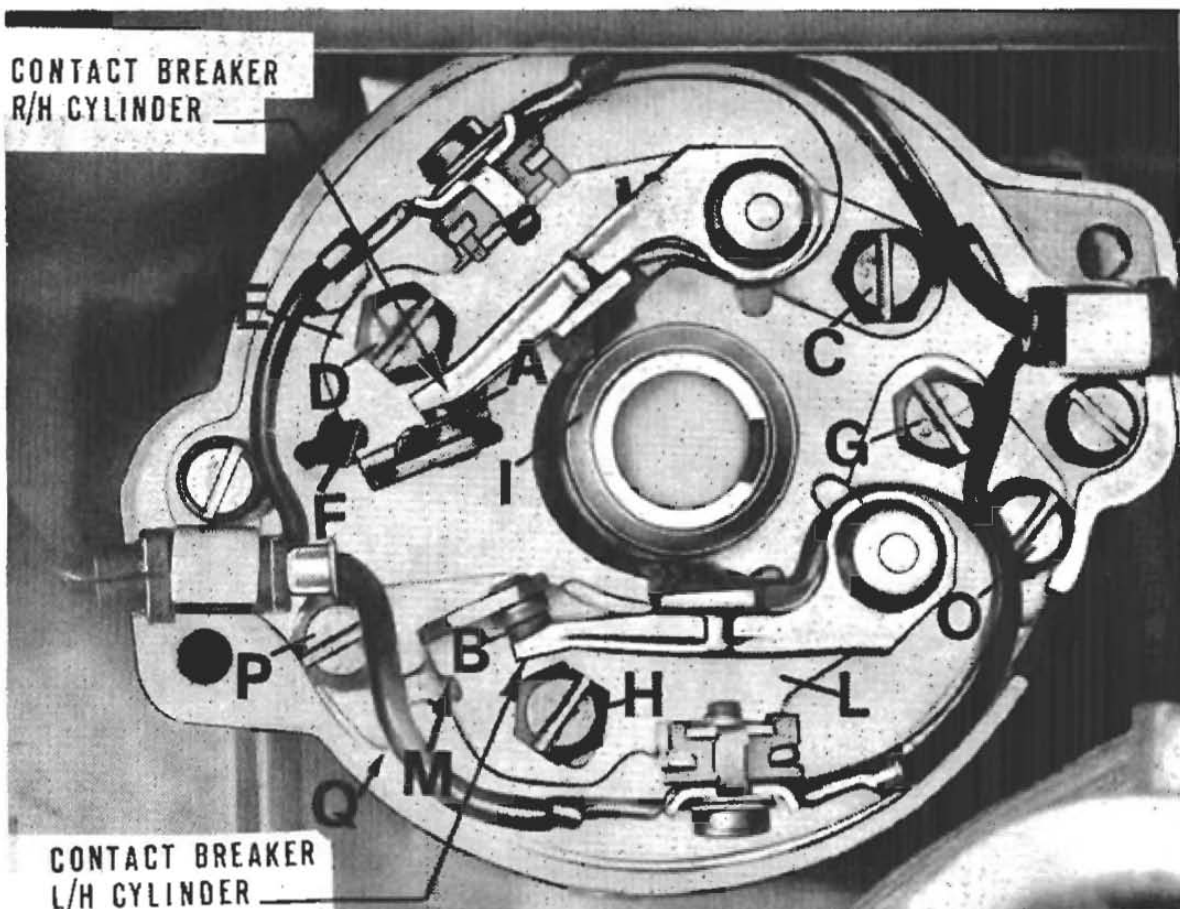
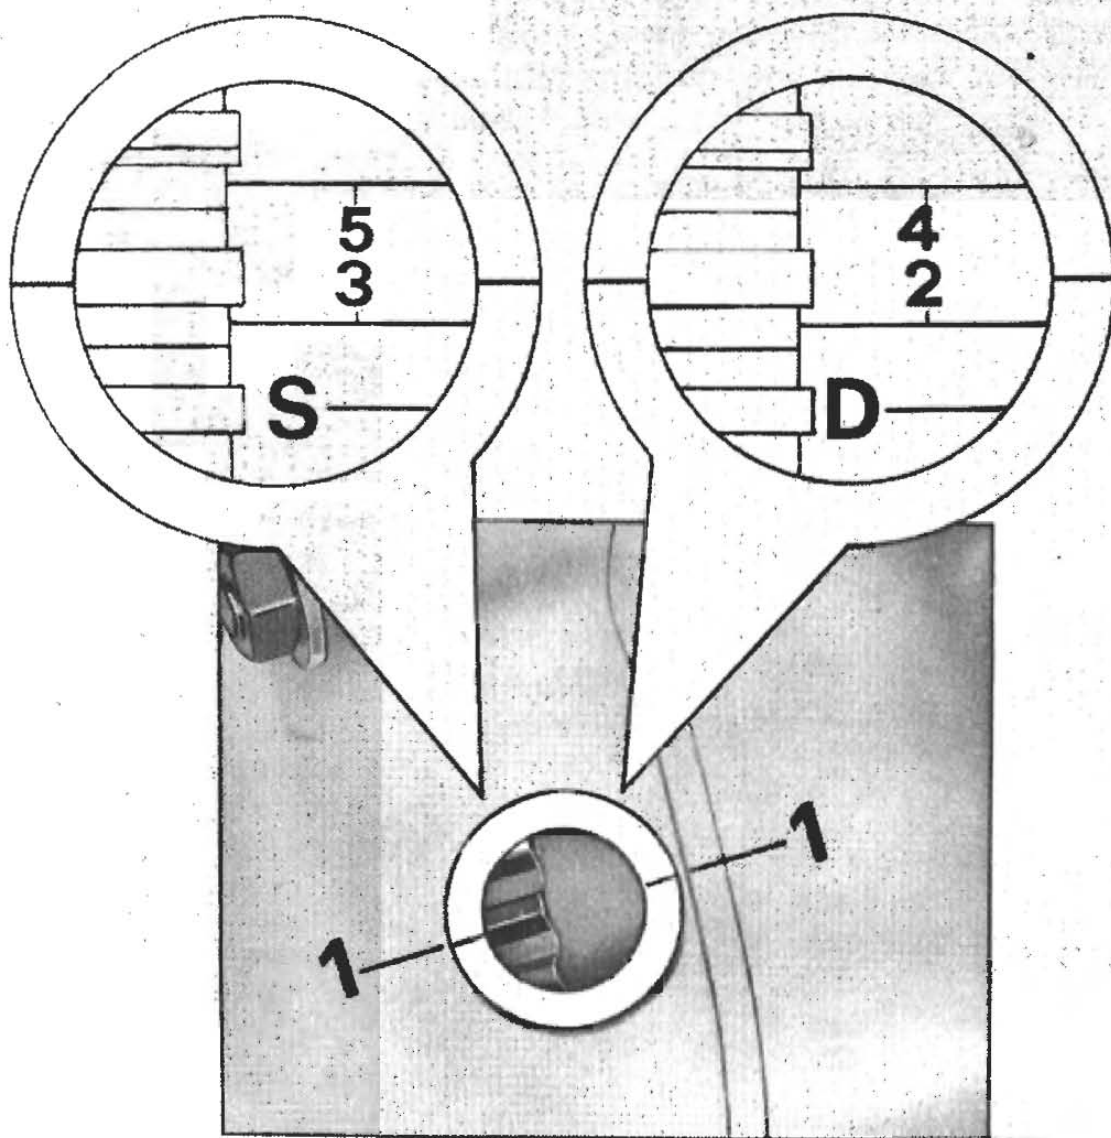

Fig. 19
Fig. 20
(Fig. 19)**
Checking and adjustment of ignition timing (fixed advance fig. 19 and 20)
- To find the exact moment when the points of breakers A and B (fig. 19) start separating it is best to use a suitable timing light device mounted in between the clamp terminal and the ground of the breaker which is being tested.
Timing the R/H cylinder (See fig. 20)
- Rotate now the flywheel clockwise to a point about 15 mm (.59") in a forward position to flywheel mark 2 (fig. 20) and then rotate back the flywheel very slowly to bring mark 2 in coincidence with mark 1 on the check hole rim.
Purpose of this operation is to recover any backlash of the gears. In this position, fixed advance mark 2 is 13° from TDC (D) and so at the commencement of the points separation (« A » in fig. 19).
Timing of the L/H cylinder (See fig. 20)
- Rotate now the flywheel clockwise to a point 15 mm (.59") in forward position to the flywheel fixed advance mark (3) in fig. 20 and slowly rotate the flywheel backwards on to the position where fixed advance mark 3 is in coincidence with mark 1 on the check hole rim.
Scope of this operation is to recover and backlash of the gears. In this position, fixed advance mark 3 is 13° from TDC (mark « S ») and so at the point where the contact points start separating. (« B » in fig. 19).
N.B. - If the points (« A » and « B » in fig. 19) do not start opening in the above positions, the ignition timing needs adjustment.
- Loosen contact breaker screws which secure it to the crankcase and move the breaker to the right or left to find the position where the points start opening when mark 2 in fig. 20 (fixed advance mark) on the flywheel coincides with mark 1 on the rim of the check hole, proceeding as described in « Checking and adjustment of « ignition timing ».
- Proceeding as described in « Checking and adjusting ignition timing for the left hand cylinder (contact breaker « B » fig. 19) set flywheel mark 3 in fig. 20 in coincidence with mark 1.
- Loosen arrow « O » and « P » (Fig. 19) which secure the contact breaker plate « B » and by acting on notch « Q » move the plate to the position where the points of breaker « B » start opening.
(See fig. 20
Marks « D » and « S » are impressed on the flywheel on which are also traced the marks shown in fig. 20 (3-4-5-6).